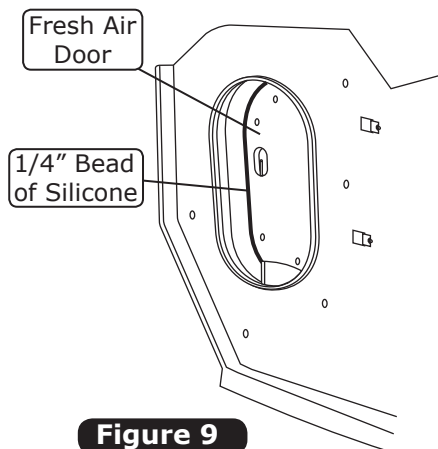

Figure 9
1. Close the fresh air door assembly in the kick panel, and seal around the door with a 1/4" bead of silicone as shown in Figure 9, below.